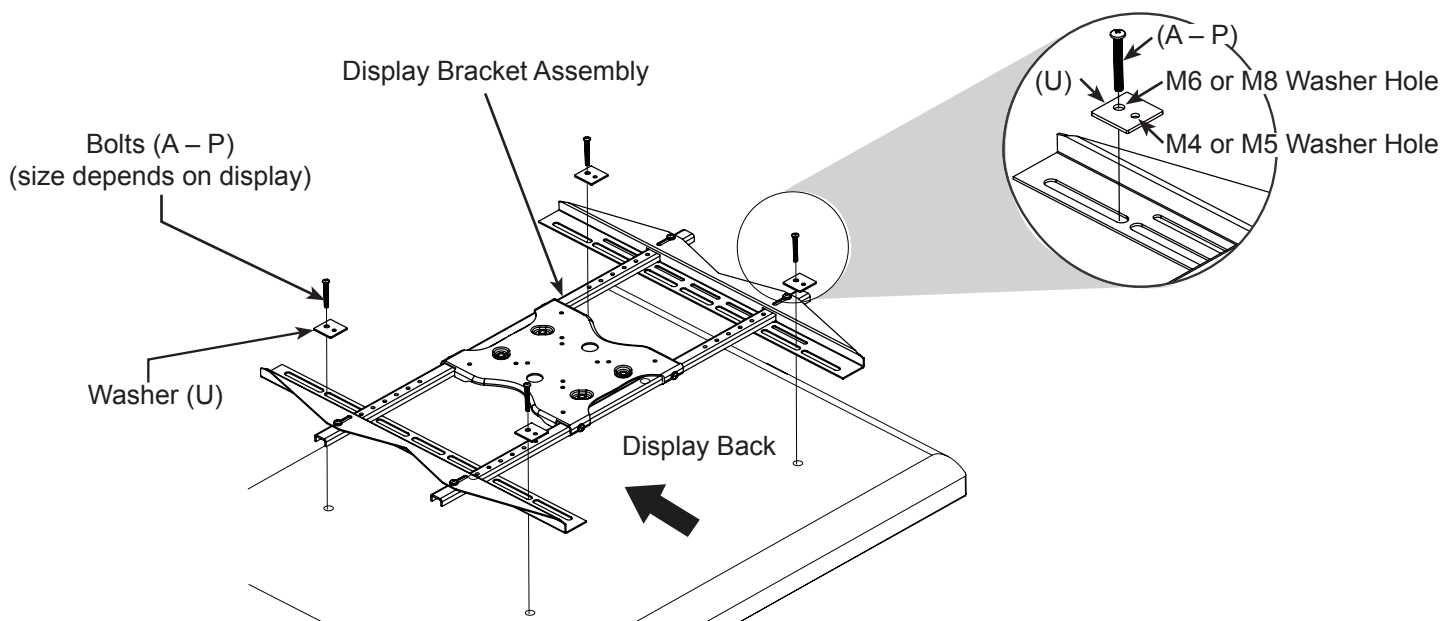

Figure 3
1. Place the assembled Display Bracket on the back of the display with one Adapter Bracket aligned with a set of vertical mounting holes (Figure 3).